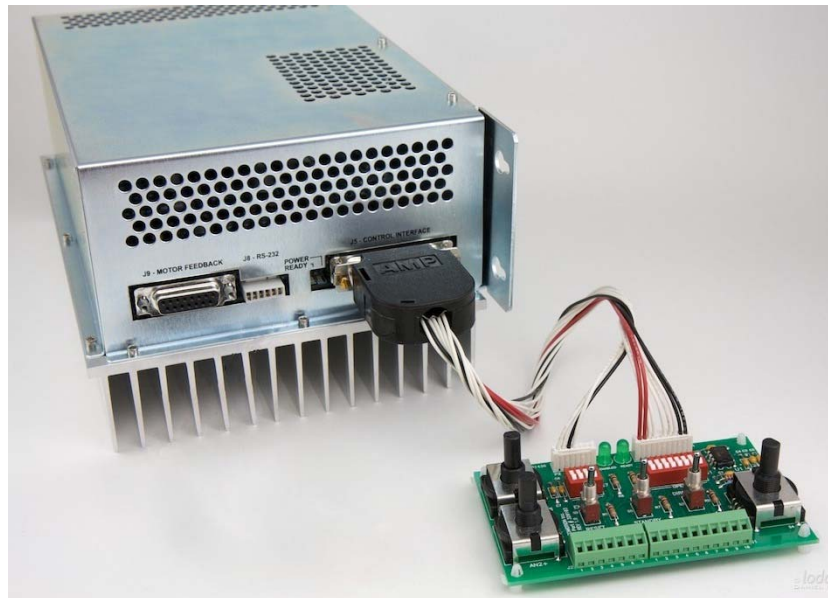

Figure 3
1. Connect wire harness part number p/n: 1002117 for the ACE1xxx, see figure 3 above.